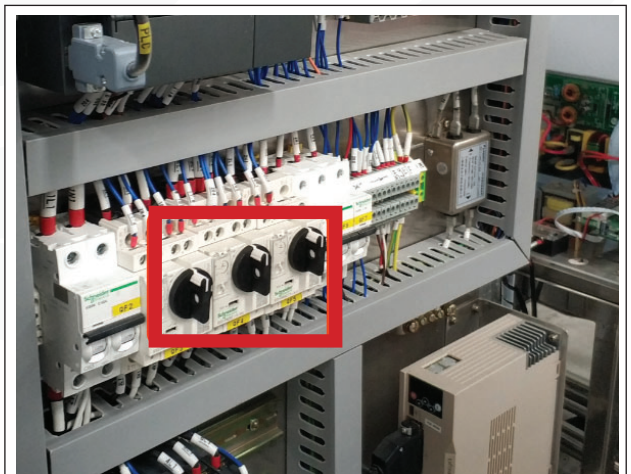

Fig. 7
2. Turn the three breaker switches highlighted in Fig. 7. **Do not touch any other electrical components.**